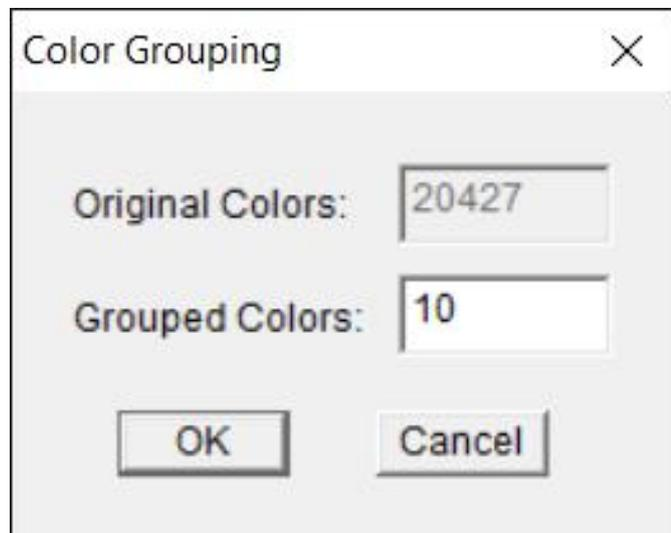

Figure 4-96
2.  Select To Auto Selected Color to bring up Color Grouping (Figure 4-96). Displays the settings for the number of Original Colors and the number of Grouped Colors in the defined selection window in Color Grouping.
3. Enter the value in the text box of Grouped Colors according to the need. Figure 4-96 shows the number of "10" colors (values can be changed). Click "OK" to complete the Auto Selected Color grouping.